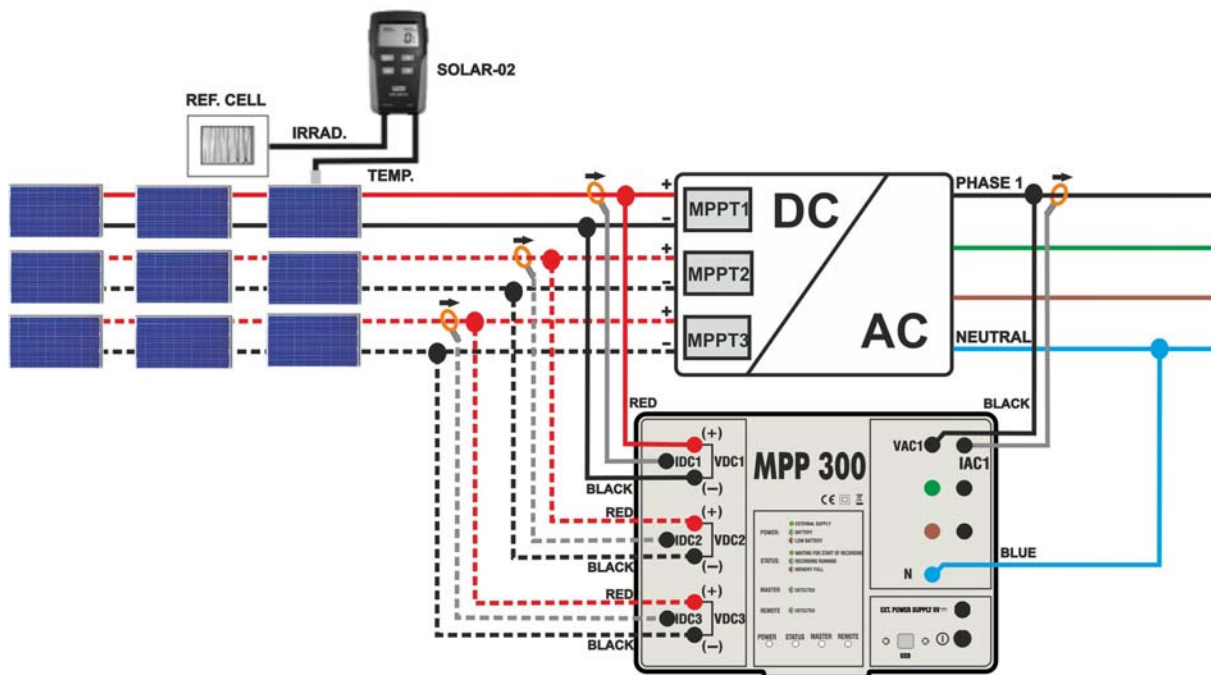
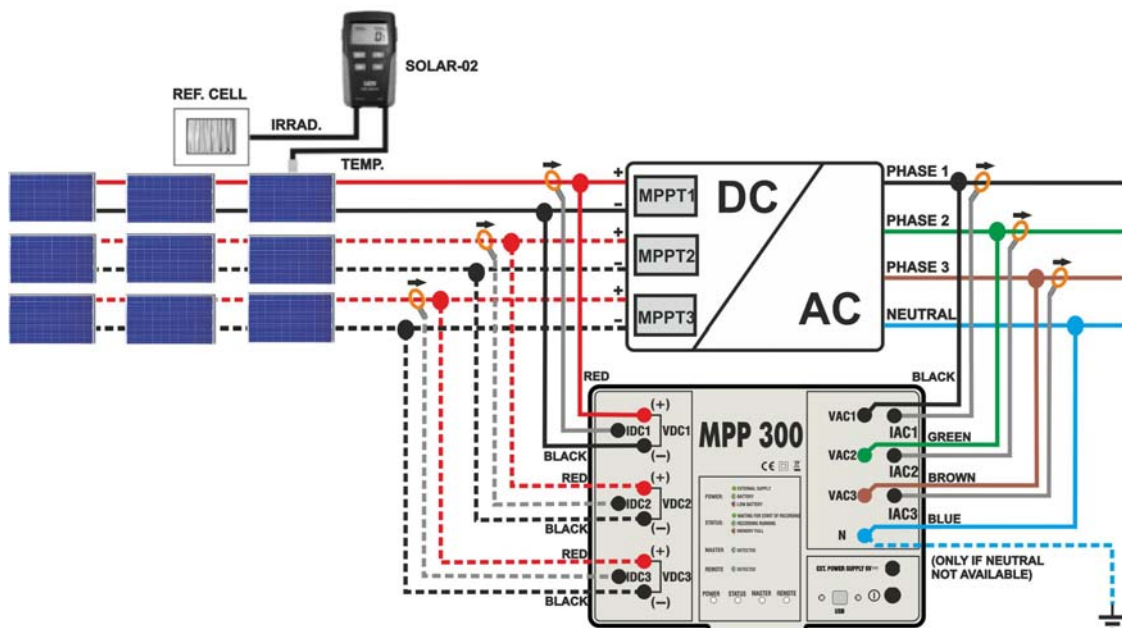

Fig. 163: Connection of MPP300 for testing a single-phase PV system
Fig. 164: Connection of MPP300 for testing a three-phase PV system
7. Fig. 163 Fig. 164 Connect the **VDC1(+)** and **VDC1(-)** inputs of unit **MPP300** to the output terminals of the string, respecting the polarities and the colours indicated in Fig. 163 or Fig. 164.
10. **Fig. 164** Insert the DC current clamp onto the positive output conductor of the string, **respecting the direction of the arrow** found on the clamp itself as indicated in Fig. 163 or Fig. 164. Position the clamp toroid as far as possible from the inverter and from the negative output conductor of the string itself.
12. Connect the **VAC1** and **N** inputs of unit **MPP300** to the Phase and Neutral conductors respectively, respecting the polarities and the colours indicated in Fig. 163 or Fig. 164. In case of three-phase systems in which no Neutral conductor is available, connect input **N** to earth.
14. **Fig. 164** Connect the AC clamp to the Phase L1 conductor, **respecting the direction of the arrow** found on the clamp itself as indicated in Fig. 163. and/or Fig. 164. Position the clamp toroid as far as possible from the inverter and from the Neutral conductor. Connect the clamp output to the IAC1 input of MPP300.